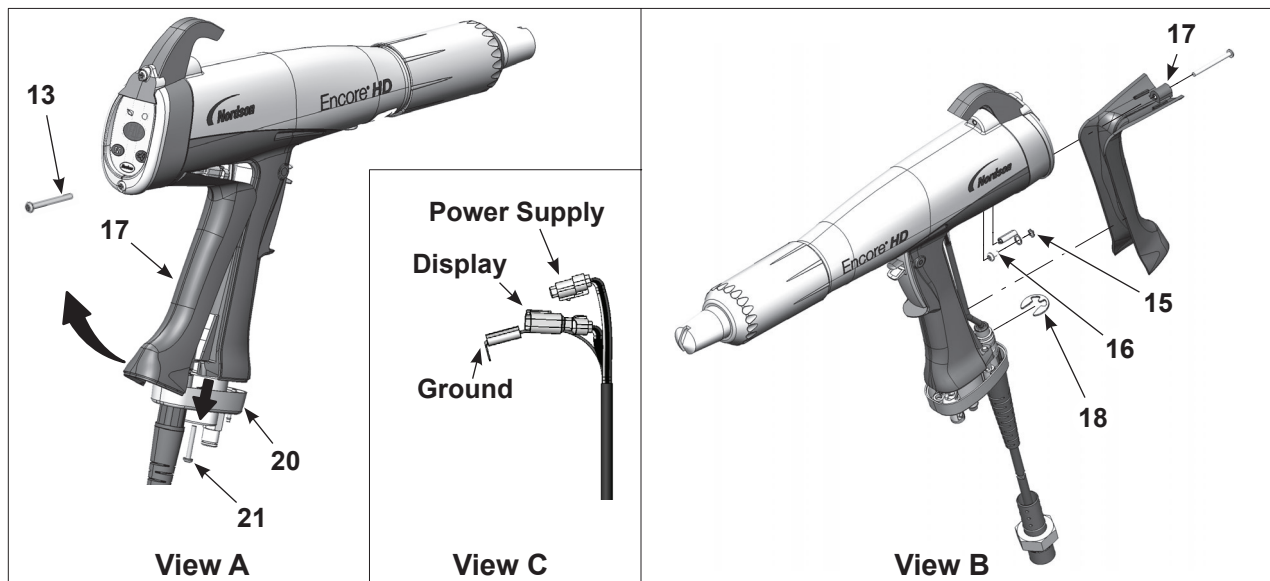

Figure 16 Cable Replacement
2. See Figure 16, View A. Remove the two M3 x 20 screws (21) securing the handle base (20) to the handle.
3. Remove the lower M3 x 35 screw (13) from the display module.
4. Pull the base away from the handle enough to free the bottom edge of the ground pad (17) from the base.
6. See Figure 16, View B. Remove the M3 x 8 screw, lock washer (16, 15), and ground terminal from the ground pad.
7. Remove the retaining ring (18) from the cable.
8. See Figure 16, View C. Pull the cable connectors out of the handle. Insert a small flat-bladed screw driver in the slots of the power supply and display connectors to release the catch and disconnect them.
1. See Figure 16. Feed a new cable through the handle base, then install the retaining ring (18) on the cable to hold it in place.
3. Connect the cable terminal to the ground pad (17) with the M3 x 6 screw and lock washer (16, 15).
6. Push the handle base (20) up against the handle and ground pad, and tighten securely the two M3 x 20 screws (21) in the base.
7. Re-install the M3 x 35 screw (13) in the bottom of the display module.